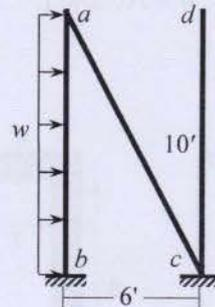

Fig. 10
10. Frame structure  $abcd$  shown in Fig. 10 is subjected to dynamic load,  $w = 3e^{9t} \text{ (k/ft)}$ . Use *Constant Average Acceleration (CAA)* Method to calculate the rotation of joint  $a$  at time  $t = 0.10 \text{ sec}$